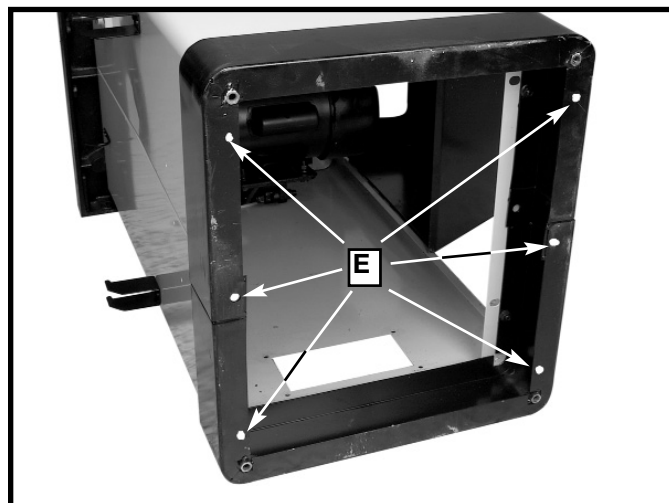

Fig. 5
Find the holes (E) Fig. 5 in the bottom of the saw and mark their position on the floor where you want to place the saw. Drill pilot holes in these spots and attach to floor using appropriate hardware.